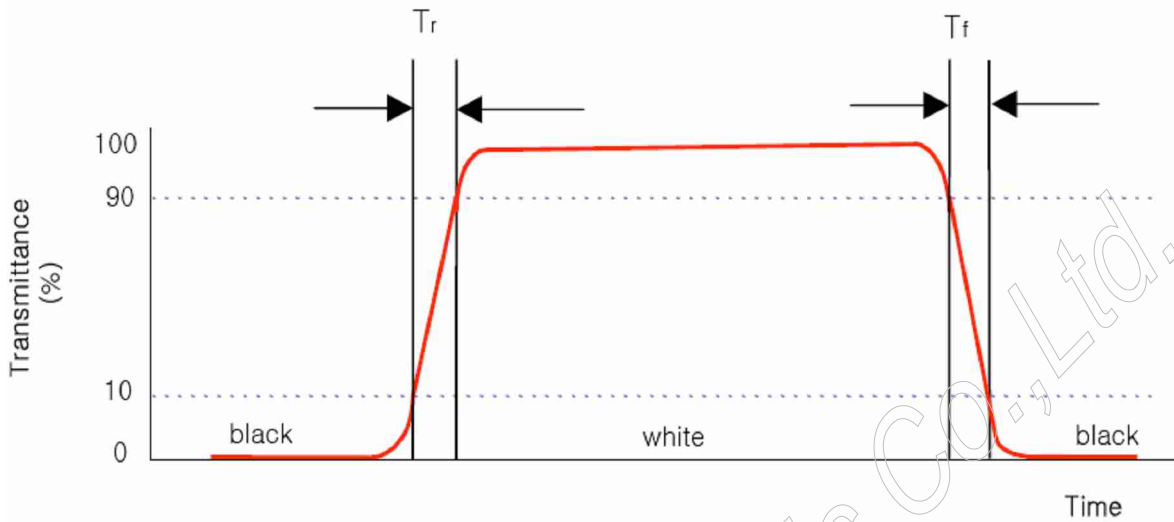

FIG.3 The definition of Response Time
- Response time is the time required for the display to transition from black to white (Rise Time, Tr) and from white to black(Decay Time, Tf). For additional information see FIG 3.